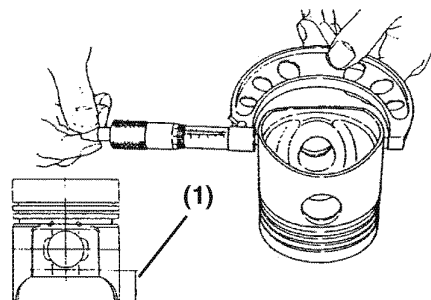

Figure 8-49
4. Measure the diameter of the piston skirt at 90° to the wrist pin bore as shown (**Figure 8-49**). Measurements must be taken at a specified distance (**Figure 8-49, (1)**) from the bottom of the piston, based on engine model. Record the measurements. See *Piston on page 8-9* for specifications.